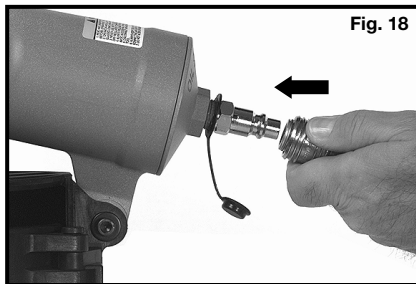

Fig. 18
1. After reading and understanding this entire manual, connect tool to air supply (Fig. 18).
- Always connect tool to air supply before loading fasteners (Fig. 18).